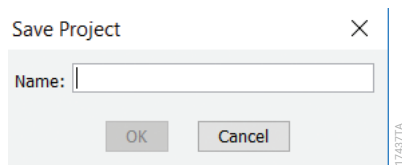

Figure 14. The 'Save Project' window.
10. If all analysis requirements are met, the 'Save Project' window will open (Figure 14).